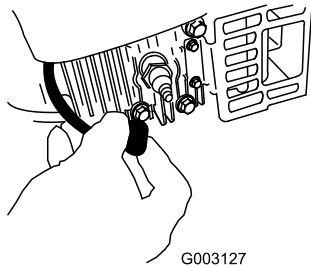

Figure 25
2. Disconnect the spark plug wire from the spark plug (Figure 25) before performing any maintenance procedure.